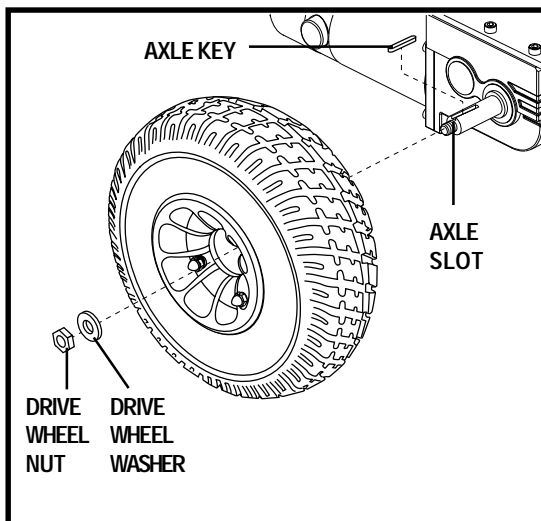

Figure 37. Quantum 610 Drive Wheel
4. Remove the drive wheel nut and washer from the axle. See figure 37.